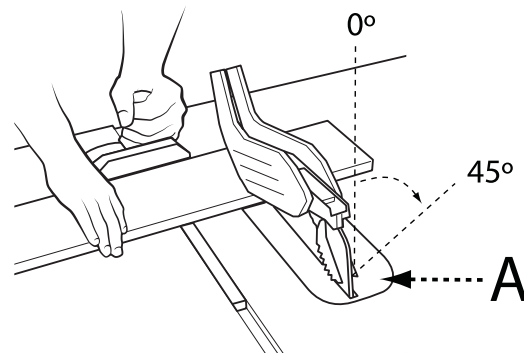

FIGURE 16
Bevel crosscutting is the same as crosscutting except the bevel angle (A) is set to an angle other than 90°. When making a bevel crosscut, place the miter gauge in the right miter slot so that the blade is tilted away from the gauge and hands. See Figure 16.